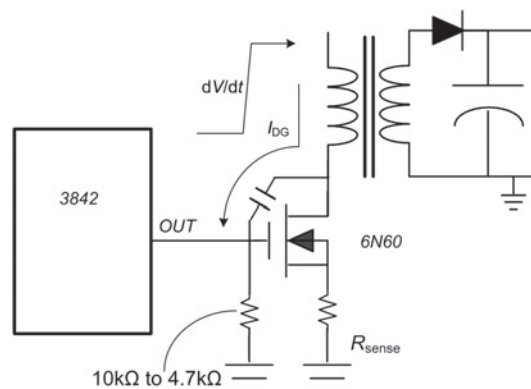

Figure 1-8 Spurious Turn-on of Fet under Power-up
5. Another possibility to consider is that of *hidden modes* of operation. I would say these are truly the hardest to figure out, simply because you didn't know that particular mode even existed prior to that. This may or may not be a flaw in the control IC. Maybe that is just the way it is. For example, once, we were seeing some sporadic, utterly mysterious failures of the Fet in our 3842-based Flyback whenever 270VAC was suddenly applied at its input. After a lot of investigation and analysis, I finally had my theory validated. It was happening like this. When power was suddenly applied, there was naturally a sudden increase in the voltage at the Drain terminal of the Fet. But some of this rising dV/dt fed a current through the parasitic Drain-to-Gate capacitance, pulling up the gate. See Figure 1-8. Though the Gate had a hardwired 10k Ω pull-down resistor to ground, it was apparently not